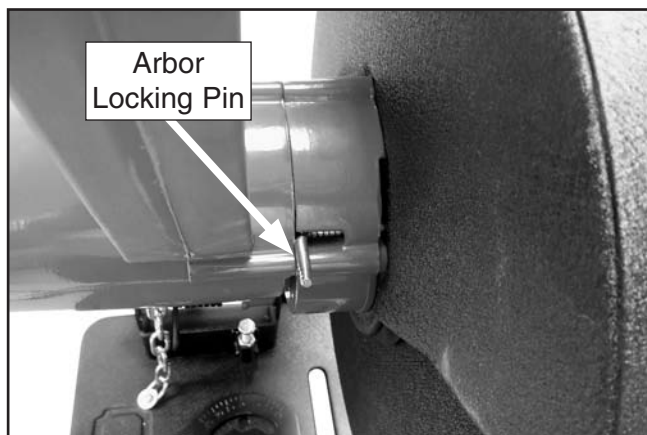

Figure 14. Arbor locking pin.
3. Press the arbor locking pin towards the blade guard (see **Figure 14**), and rotate the blade until the pin moves inward and locks the arbor in place. While holding the pin in, loosen the arbor bolt.